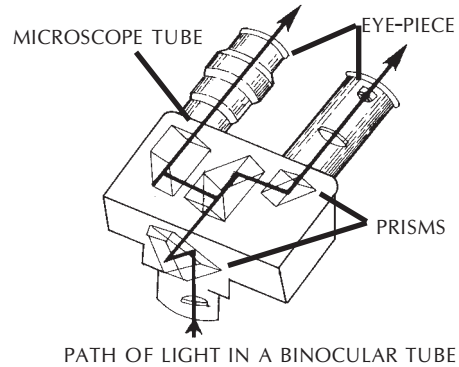

Fig. 3.3
- In modern microscopes it is not tubular; it contains prisms that bend the light coming up, thus providing a comfortable viewing angle (Fig. 3.3). In a binocular tube, the light is also split and sent to both eye-pieces.